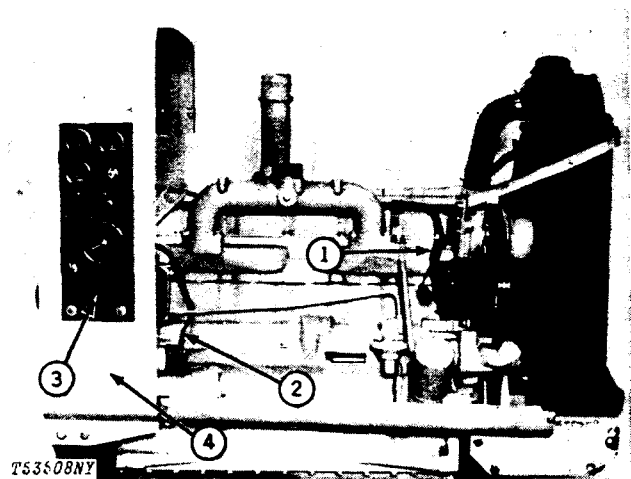

Fig. 5-Solenoid and Alternator Wiring
Disconnect alternator wiring (1, Fig. 5) from alternator.
Disconnect solenoid wiring (2, Fig. 5) from solenoid.
Remove rear shroud (4, Fig. 5) with instrument panel (3) attached.